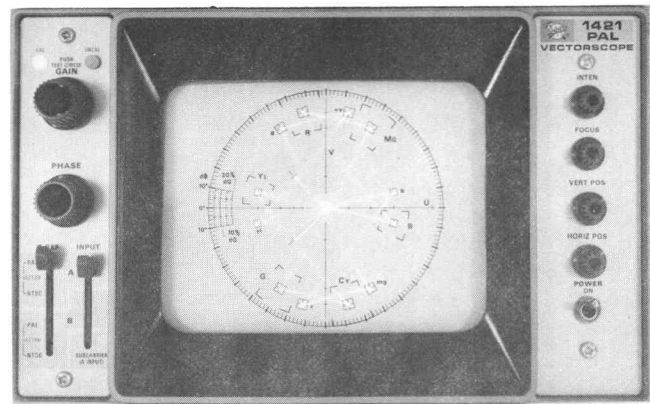

Fig. 3-7. Typical display used when setting Intensity Limit.
- Rotate the PHASE control until the chrominance vectors fall in their proper boxes. (See Fig. 3-7.)